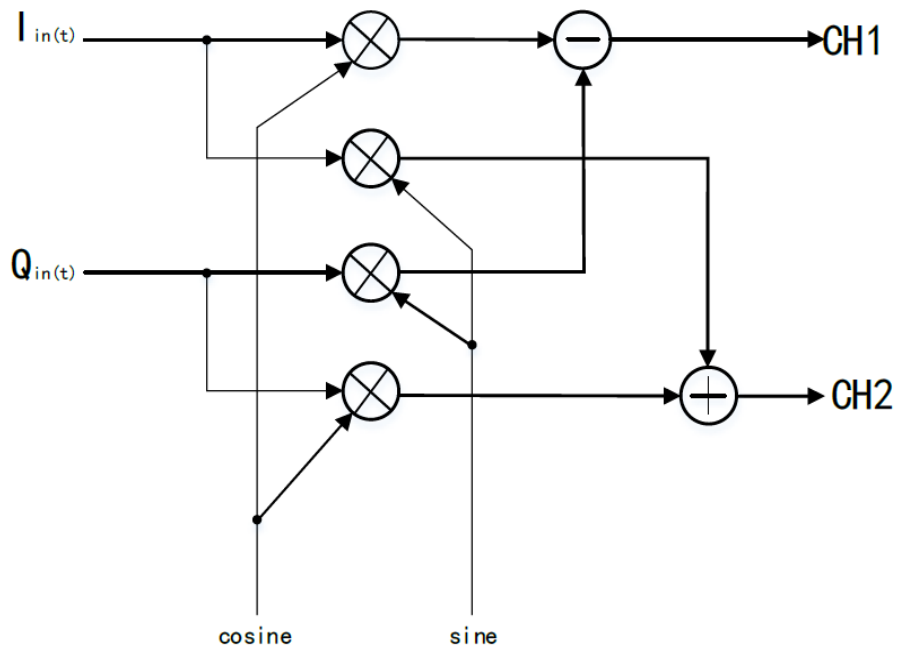

Figure 2-31 IQ Modulator in the T3AFG
Press Parameter → Center Frequency, to set the center frequency. The range of center frequency is 0Hz - 500MHz. If the center frequency is 0Hz, the two channels will output the IQ baseband signal. If the center frequency is not zero the two channels will output an intermediate frequency (IF) IQ modulation signal whose center frequency is the intermediate frequency. The figure below shows the diagram of the IQ modulator in the T3AFG Figure 2-31.